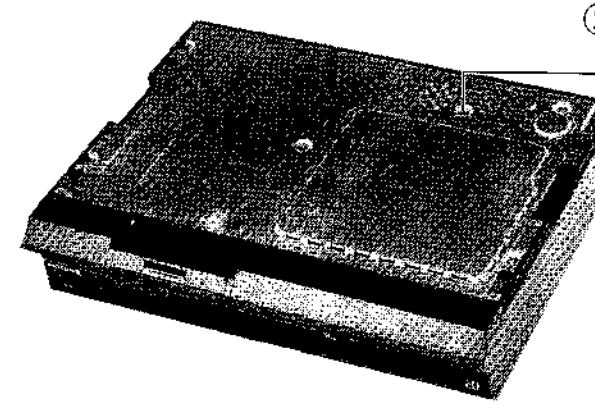

Fig. 4 Bottom Cover
4. Regulator Circuit Board (Figs. 4 and 5)